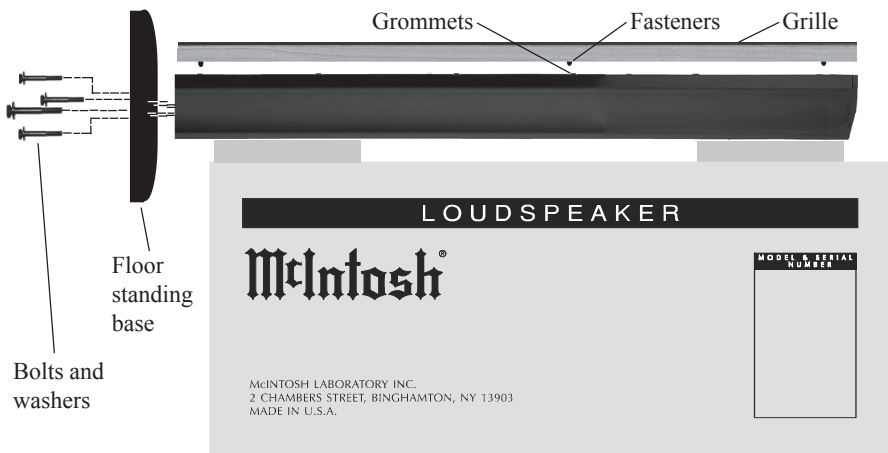

Figure 5
- Orient the Floor Standing Base with the widest end of the base facing up and the totally flat side of the base pointing away from the XLS340. Refer to figure 5.